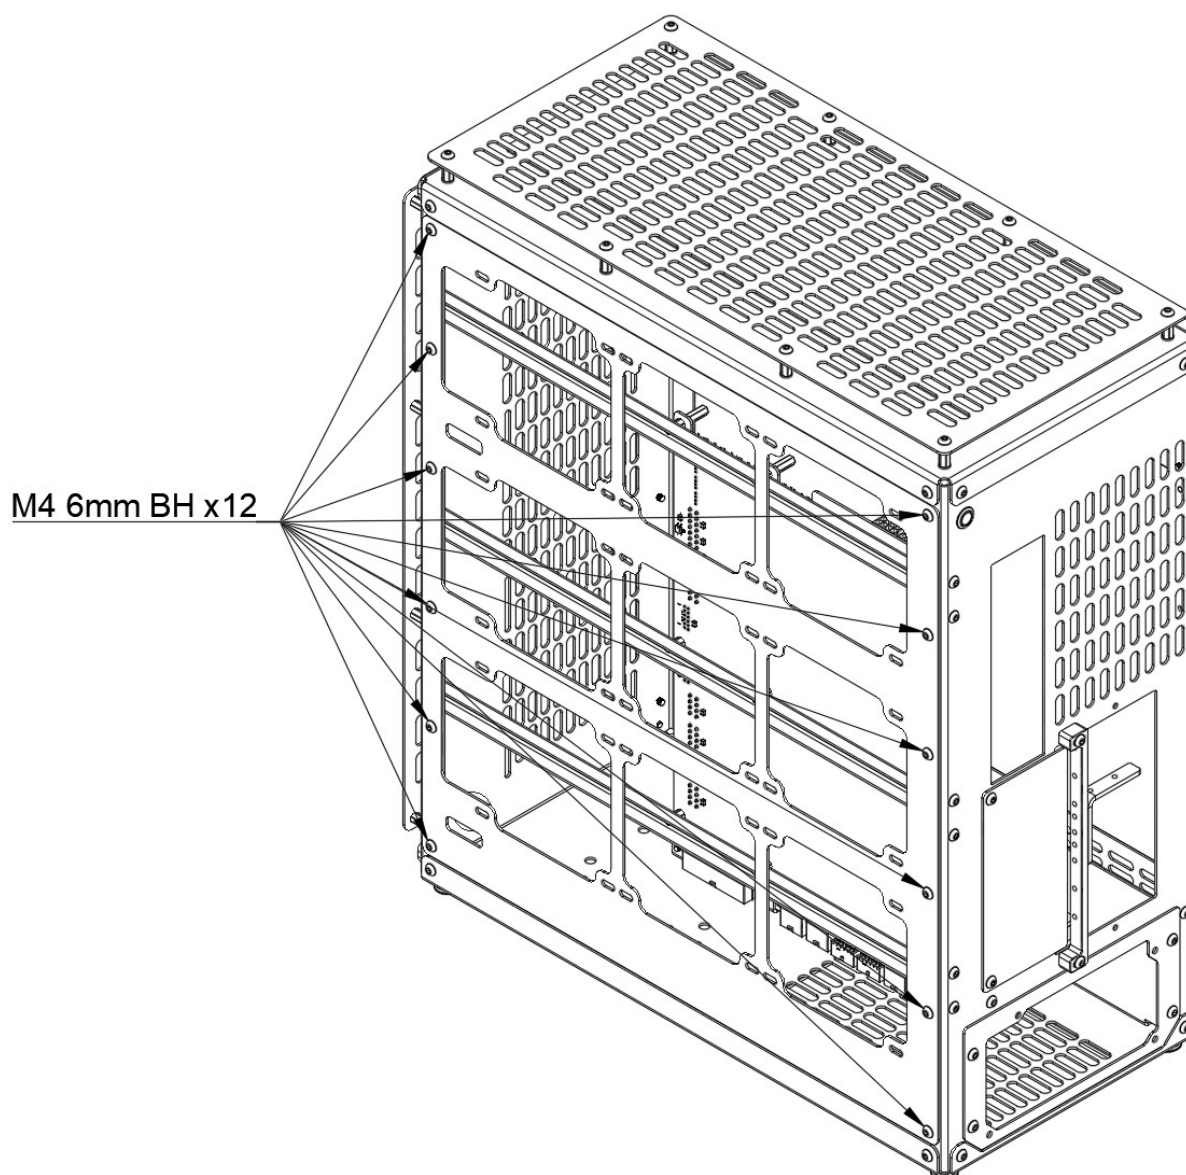

Figure 10A
- Step 25: If a 3x360 radiator mount is used on the right side instead of a solid side panel then install the radiators to the mount first (the ports face inside the case) using the radiator's own mounting hardware, then install this assembly to the case using M4 6mm BH x12 according to Figure 10A.